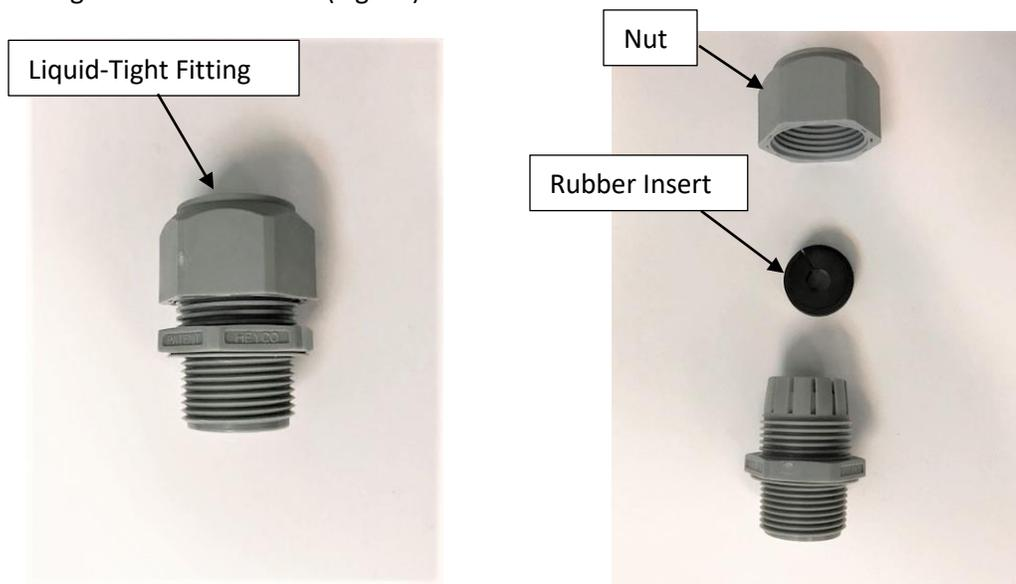

Fig 12
10. If **BOTH** a swim current and treadmill have been purchased with two separate power units, a board to board communication cable must be installed between the two controllers. Two cord grip liquid-tight fittings have been supplied for both the swim current and treadmill controllers to prevent water intrusion. Locate a 3/4" liquid-tight fitting. Unthread the nut and remove the rubber insert using a small screwdriver (Fig. 12).